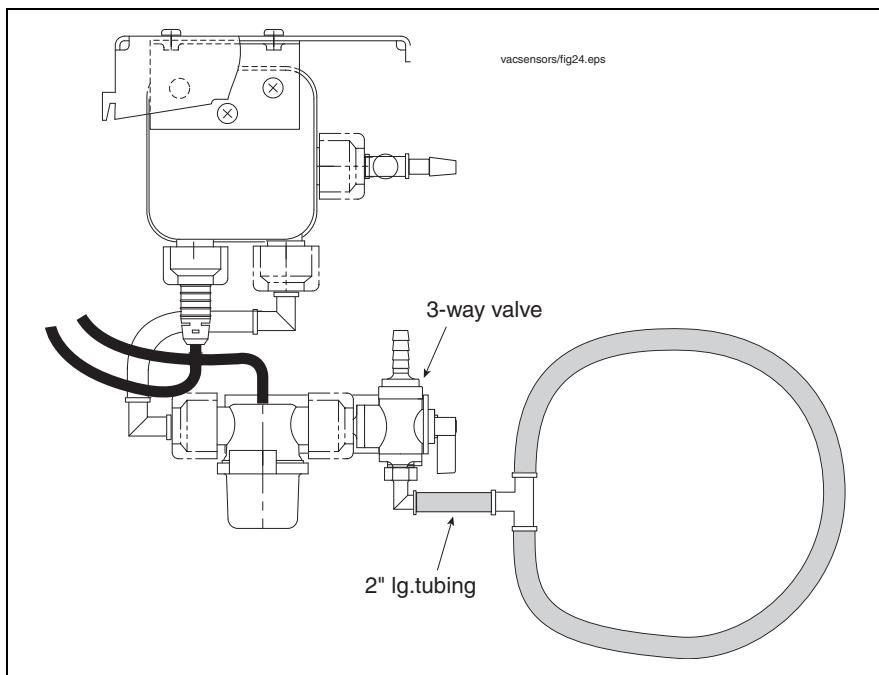

Figure 4-6.- Isolating Vac Float for Leak Test
7. Cut a 2-inch piece of tubing and attach one end to the open fitting on the test loop's tee and the other end to the 3-way valve's input port (see Figure 4-6).